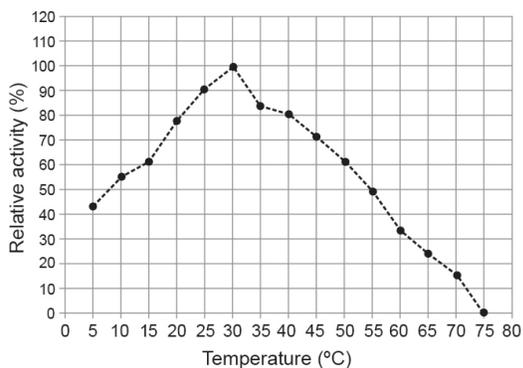

Figure 1. Amylase activity in *Bacillus subtilis*
- The graphs below show the relative activity of α -amylase from two different species. Amylase is an enzyme that breaks down complex carbohydrates, like starch, into simple sugars that are used in cell respiration. Figure 1 shows data obtained using α -amylase samples from the bacterium *Bacillus subtilis*, found in the gut of termites across the southern United States.¹